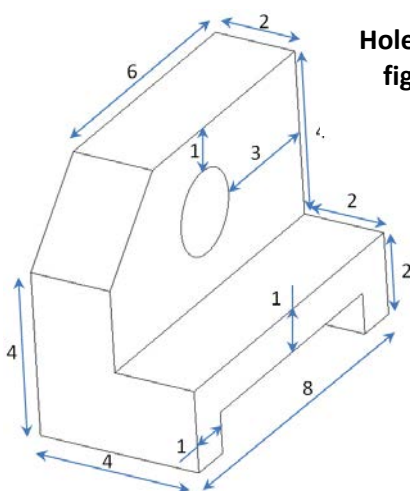

Figure 1
Part 3: Imagine that a particular mechanical device contains three different steel alloy components, shown in isometric view in Figures 1, 2 and 3. In order to protect these components from corrosion, the components are to be covered with an expensive coating. To determine the amount and cost of the coating, the total surface area must be calculated first. The surface areas can be readily calculated from sketches done in IntelliCAD with the 'area' command, after dimensioning each component's three primary views: top, front and side. You are to produce the working (detail) drawings and calculate the surface area of each component. (In addition, you will report the volume of each component.)
4. Calculate the total volume (cm^3) and the total surface area (cm^2) of the parts shown in Figures 1,2 & 3 and write it on the drawing by hand (*supporting calculations should be attached in an appendix*): write “Total surface area = # cm^2 ” and “Total volume = # cm^3 ” both results with 7 sig. figs. The ‘area’ command in IntellCAD may provide a useful check of your calculations.
- report the surface areas of the components shown in Figs. 1, 2 & 3;
- report the volumes of the components shown in Figs. 1, 2 & 3;
3.	IntelliCAD Drawing of Figure 1 with a title block (total surface area and volume should be handwritten on the page with 7 sig figs)